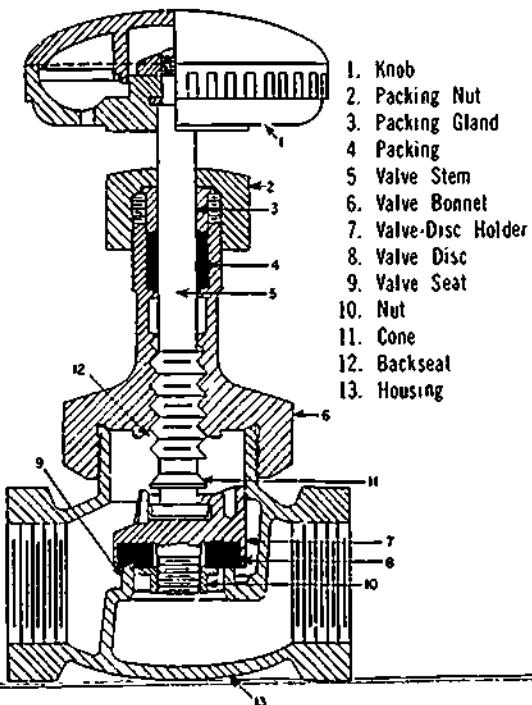

Figure 31-7. Manually Operated Globe Valve
92. *Operating Valves.* (Refer to the accompanying appendix.) The operating valve used on most sterilizers is similar to the one shown in Figure 31-7. This type is commonly referred to as a globe valve. It may be of varying size and shape, but operates on the same principle. It may be used to control the steam supply, water supply, exhaust system, etc. The moving parts of an operating valve consist of a valve stem (see component 5), with a disc holder (7), and a disc (8) on one end. Turning the valve knob (1) clockwise forces the valve disc (8) onto the valve seat (9) to stop the flow through the valve. When the valve stem is turned counter-clockwise (opened) all the way, the cone-shaped portion of the stem (11) contacts the backseat (12), which is part of the valve bonnet (6), thus preventing pressure from being applied to the packing (4) when the valve is fully opened. This is why operating instructions for equipment using this type of valve specify that the valve be fully opened.